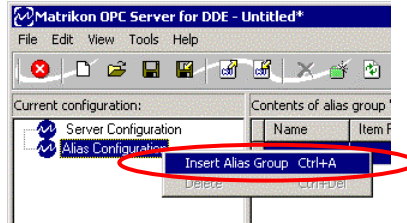

Figure 3-3. Creating a new Alias Group.
- From the **Edit** menu, select **Insert Alias Group**. Alternatively, you can right-click **Alias Configuration** and select **Insert Alias Group** from the shortcut menu that is displayed, as shown in Figure 3-3.
- Select the new alias group (**New Alias 1**). From the **Edit** menu, select **Insert New Alias** as shown in Figure 3-3. Alternatively, you can right-click in the contents pane at the right of the window and select **Insert Alias Group** from the shortcut menu that is displayed.